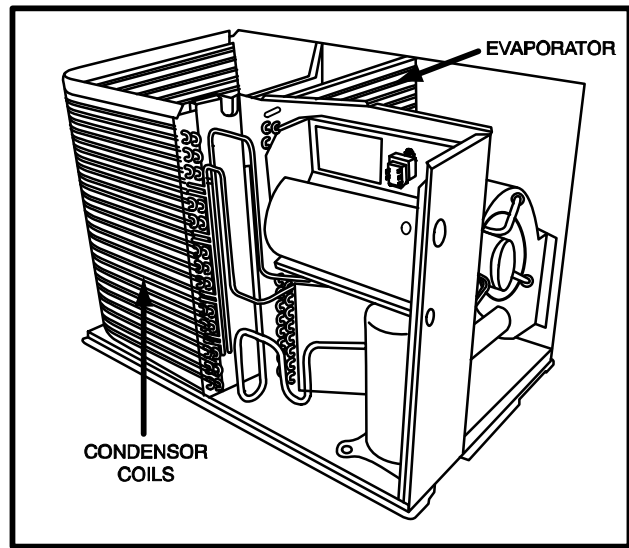
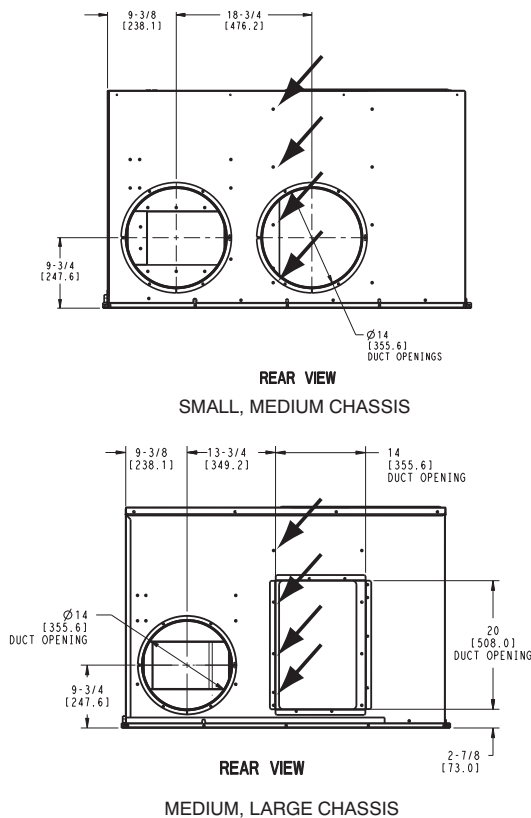

Figure 8 – Access of Condenser Coil
Figure 9 – Location of Screws
- b. Screws from the compressor compartment and either the side of the unit or below the condenser fan (depending on the shape of coil) will need to be removed to remove condenser coil. (See Figure 8.)
- b. (42 to 60) The indoor evaporator coil is held in place by screws located in the compressor compartment and on the rectangular duct flange. The rectangular duct flange does not need to be removed but the left side screws will have to be removed. (See Figure 8 and Figure 9.)